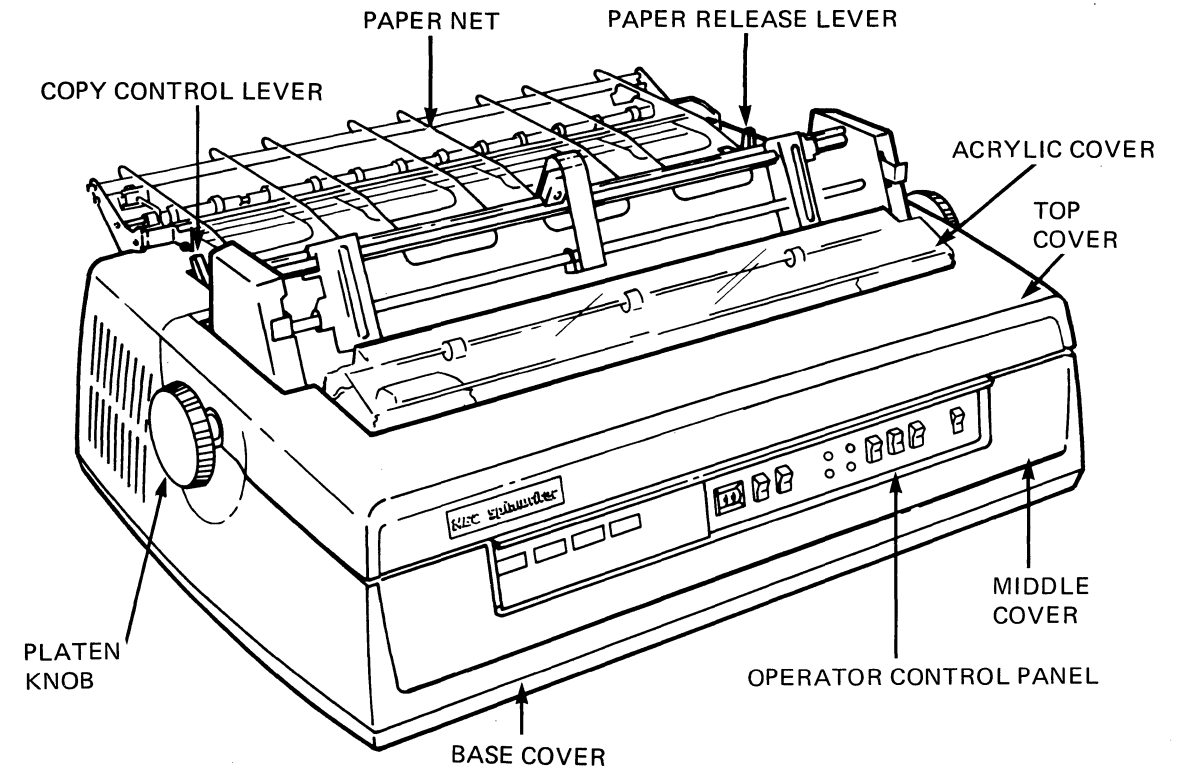

Figure 4-1 Spinwriter Showing External Components
- a. Open the top cover (see Figure 4-1).